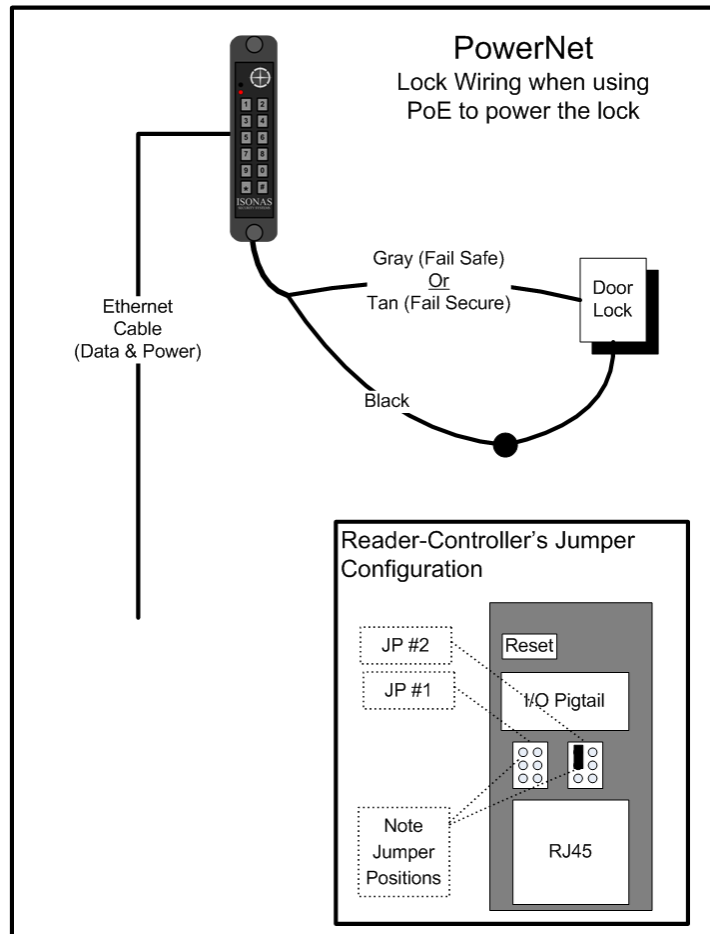

Figure 8
Generic Wiring, using PoE: See Figure 8
- a. Otherwise you may supply 12VDC power to the lock relay by using the jumper pins as shown in **Figure 8**.